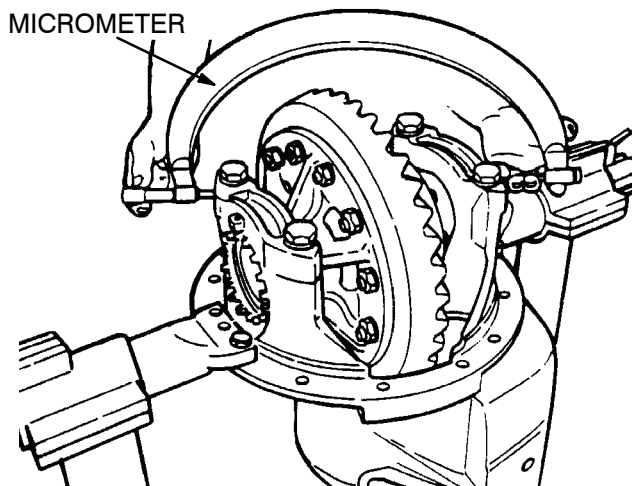

Figure 72.
- (2) Tighten same adjusting ring enough to obtain .000 end play.
- (3) Next, tighten each bearing adjusting ring one notch from .000 end play to pre-load differential bearings. The side bearings of the differential now have a preload of 15–35 in–lbs. (1.7–3.9 Nm).
- (B) **Micrometer Method.** An alternate method or a means of checking pre-load adjustment is to tighten adjusting rings until the carrier legs are spread .006" to .013" (15–35 in. lb. rolling resistance). When measuring for carrier leg spread, use a large micrometer or vernier gauge and measure at legs diagonally opposed. Refer to Figure 72.
- (1) Turn both adjusting rings hand–tight against the differential bearings.
- (2) Measure between opposite outside surfaces of the bearing caps. Note this measurement. See Figure 72.
- (3) Tighten each adjusting ring one notch.
- (4) Measure the distance between opposite outside surfaces of the bearing caps again. Compare this new measurement with the measurement noted in step 2. The difference between these dimensions is the amount the bearing caps have expanded.
- (5) If the difference in dimensions is not at or within the specification, repeat steps 3 through 5.